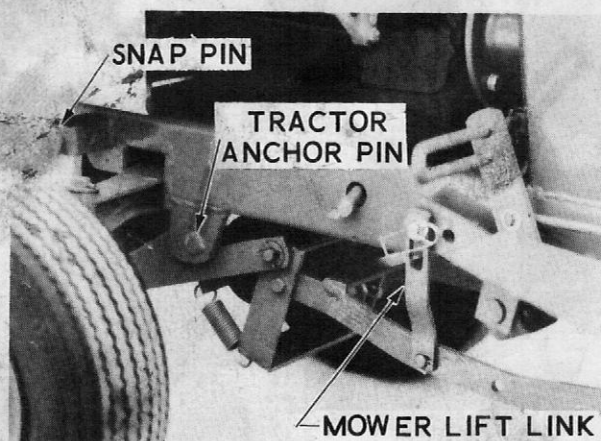

Figure 14.
1. The mounting bracket for the 38" model H40 mower is completely preassembled at the factory. There are two lift links packaged loose with the 44" model H44 and 48" model H46 mowers. See Figure 14. If the mower is being installed on Model 220 or 222 Tractors, assemble the shorter of the two links to the outside of the left hand side of the mounting bracket with the clevis pin and cotter pin furnished. If installing the mower on Model 442 or 444 tractors, assemble the longer link. Note that the link is assembled with the off-set outward.
3. Position the mounting bracket under the front of the tractor and onto the anchor pins as shown in Figure 14. Raise the front of the bracket and release the snap pins to lock in place.